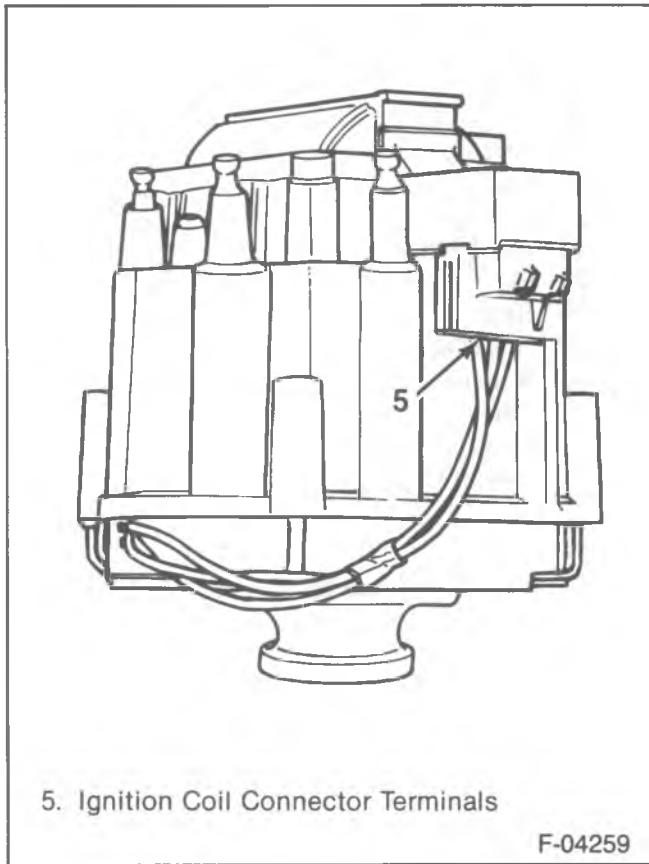

Figure 59—Wiring Harness Connector
- 18. Distributor cap (23) onto the housing (30) with the tab on the rim of the cap in the notch of the housing.
- 20. Wiring harness connector to the terminal on the side of the distributor cap (figure 59).